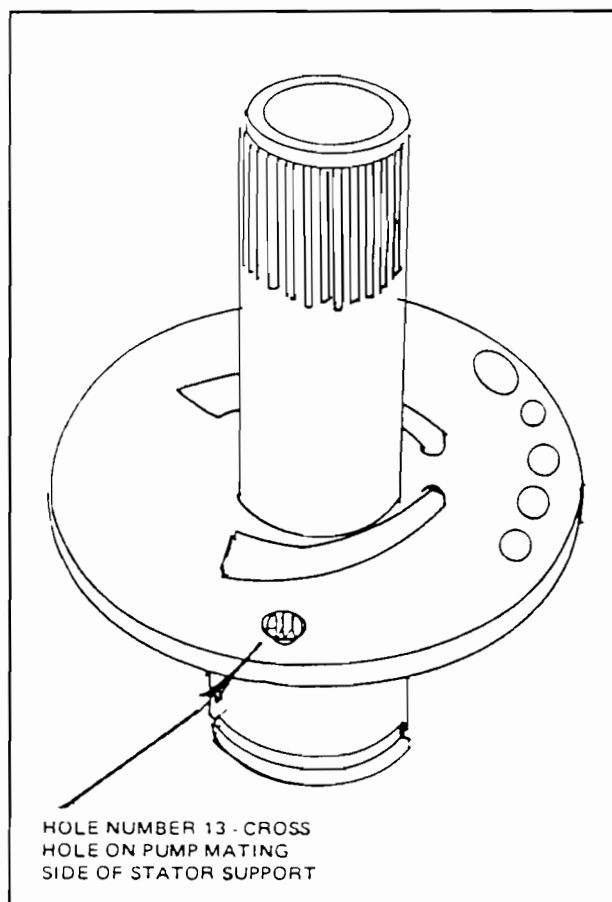

Figure 8 — Article No. 85-11-9
When overhauling a low mileage AOD transmission with evidence of overheating, inspect the converter drainback cross hole passage in the pump stator support for contamination, or a spring compressed solid which would indicate a stuck open check ball. (See Figure 8, Hole No. 13.)
The converter drainback valve in Hole No. 12 of the pump stator support consists of a spring and a ball with an aluminum ball plug pressed in the passage. If contamination can be seen in the exposed cross hole passage area or if the spring is compressed solid which would indicate a stuck open check ball (can be seen when the stator support is turned over — refer to Figure 8, Hole No. 13), then follow the procedure included here for removal and cleaning of the converter drainback valve. In addition, the converter will have to be replaced.
1. To remove the drainback valve (check ball and spring) in Hole No. 12, remove the aluminum ball plug. This can be done by using a suitable punch inserted into the cross Hole No. 13. (See Figure 8.) Discard the aluminum ball plug and the spring. The check ball must be retained for reinstallation.